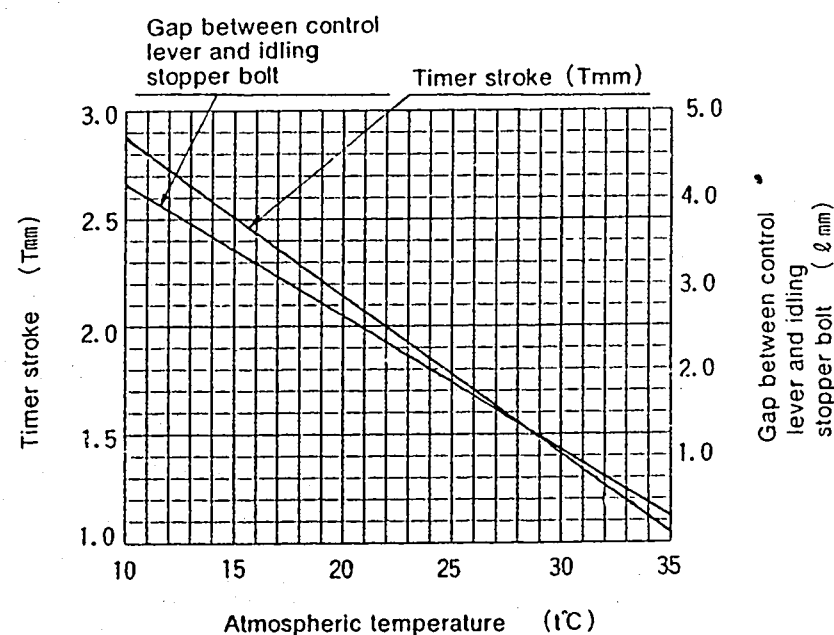

Fig. 2
1. Calculate the block gauge dimension $\ell \pm 0.05\text{mm}$ from Fig. 2 according to the atmospheric temperature at the time of adjustment.
1. Calculate the timer stroke from Fig. 2 according to the atmospheric temperature at the time of adjustment.